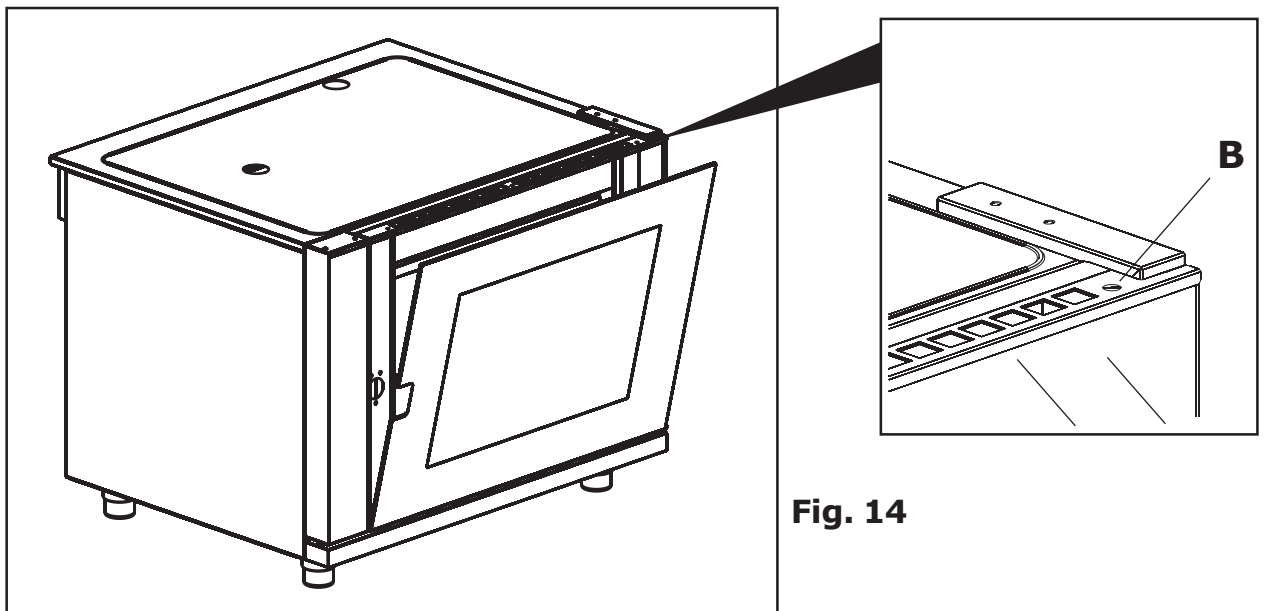

Fig. 14
- remove the handle from the oven door (**Fig.14**);